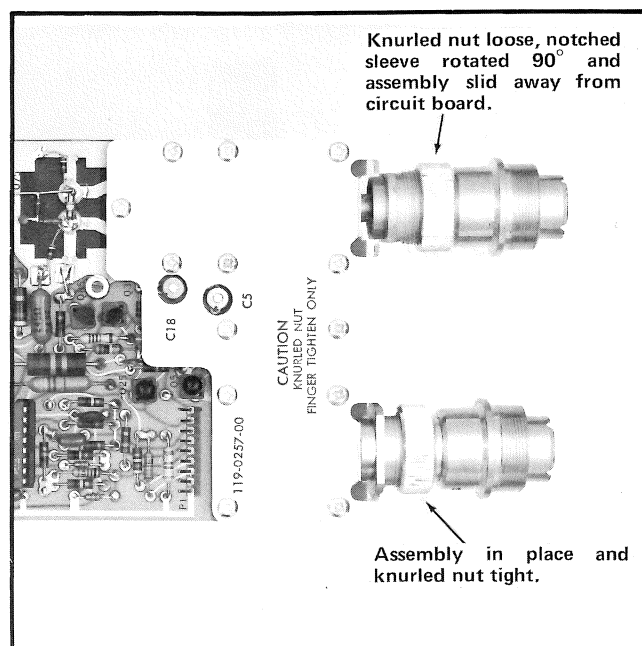

Fig. 4-3. Vertical board GR connector assembly.
1. Remove the Vertical circuit board assembly from the Sampler. Loosen the knurled nuts on the GR connectors. See Fig. 4-3. This frees the shield fingers from the notches in the connector sleeves.